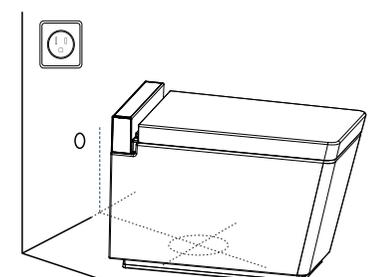

Figure 3
3. Lift the toilet (ceramics), align the ceramics body of the toilet to the ceramics outline line drawn on the ground according to the ground drain, and slowly place the ceramics on the ground to make the two marks coincide. Press the ceramics down to make the sludge fully contact with the toilet drain after coincidence. As shown in Figure 3.